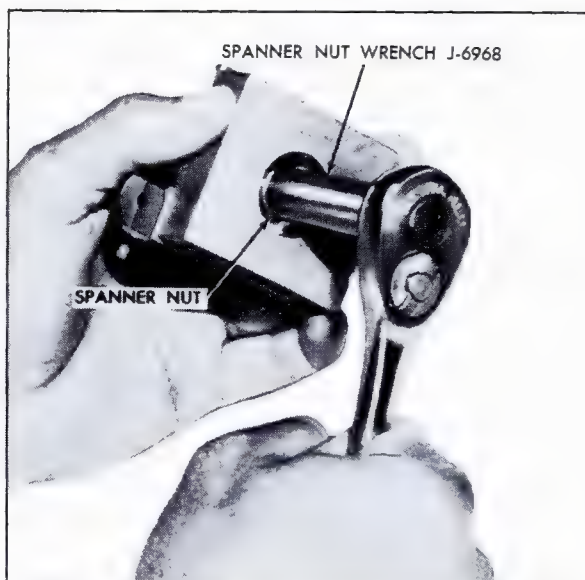

Fig. 12-43 Removing Spanner Nut - Control Switch
4. Remove spanner nut securing control switch to backplate using Spanner Nut Wrench, J-6968, Fig. 12-43, and remove control switch from backplate.
1. Install control switch on backplate, aligning notch in backplate with tang on control switch. Secure with spanner nut using Spanner Nut Wrench, J-6968, Fig. 12-43.